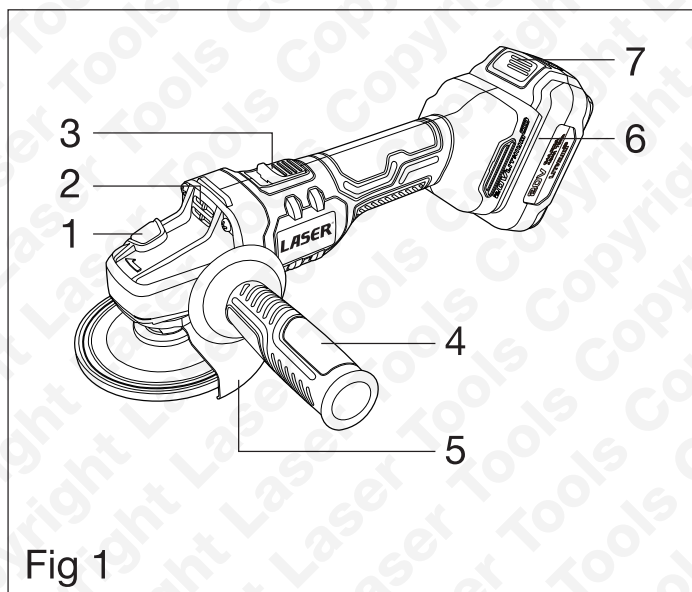

Fig 1
- Press spindle lock button to lock gearbox (Fig. 1).
- The ON/OFF switch (3 in Fig. 1) is designed to avoid accidental starting — push forward then press down to lock in the ON position.